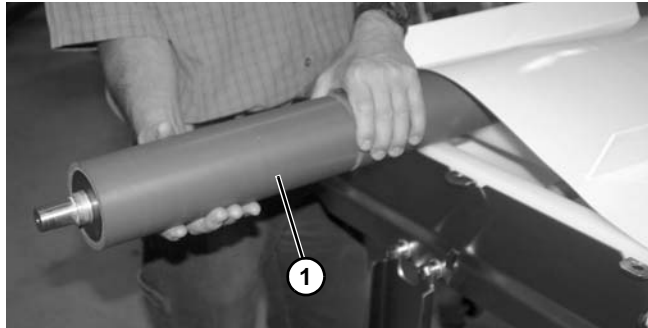

Figure 127
8. Lift up on belt and remove drive tail spindle (Figure 127, item 1).